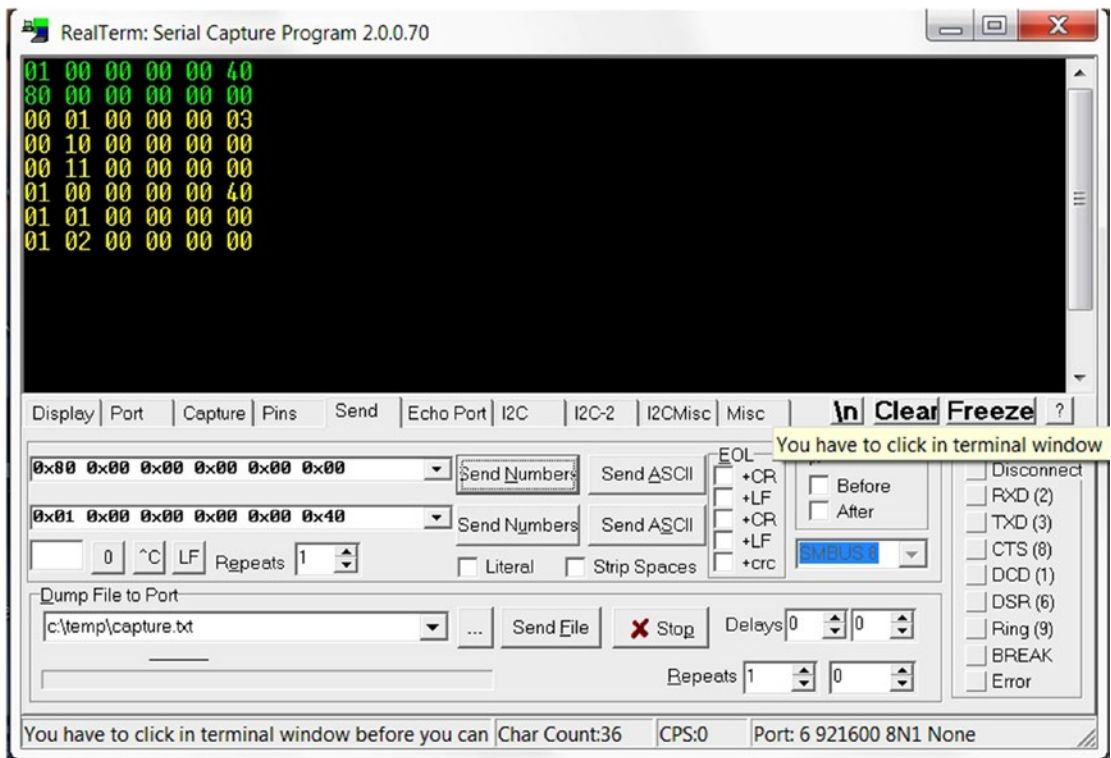

Figure 14-20. SPI master setup commands
Step 2: Set the SPI master clock speed, clock polarity, and phase. Figure 14-20 shows the setup command and status being read back.